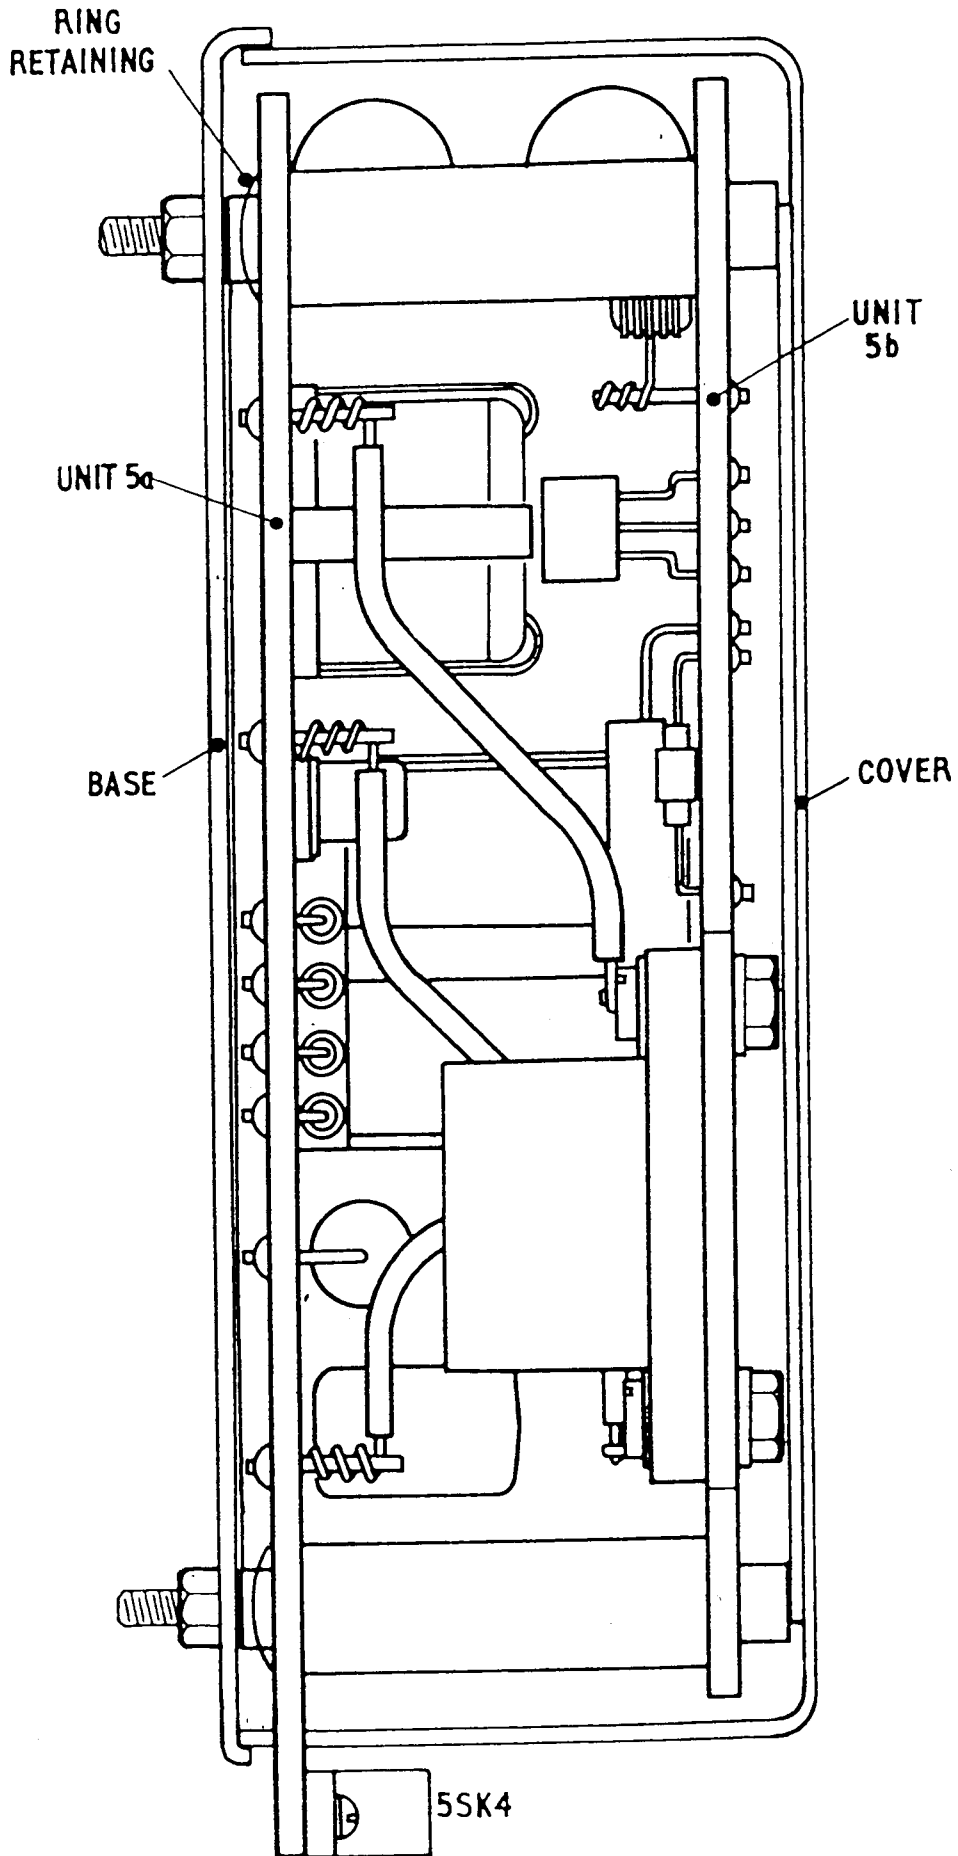

Fig. 3 Power supply unit assembly (unit 5)
17. The principal component parts of the Power Supply Unit 640/1/09593 (see fig.3) are:
18. The principal component parts of the Assembly of PEC 640/1/14895 (see fig.3) are: